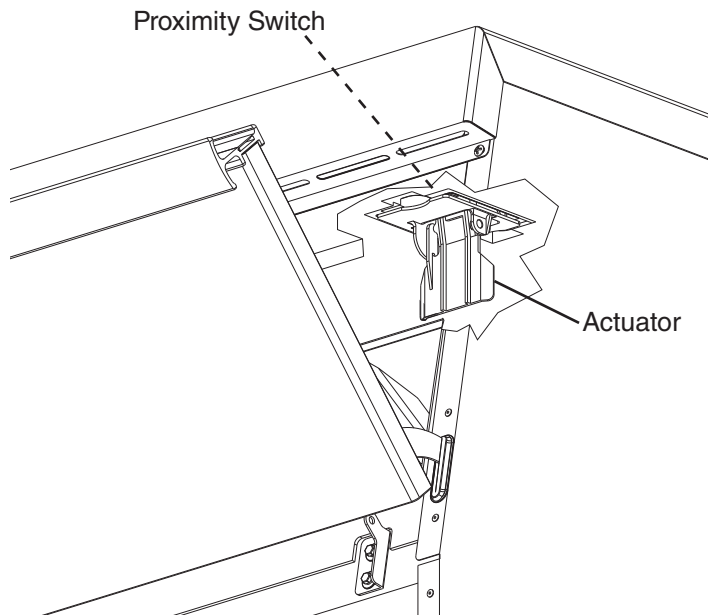

Fig. 4
- 6) Once the "COMP" LED is on and compressor is energized, press the actuator paddle located in the ice storage bin (actuator paddle engaged). See Fig. 4.